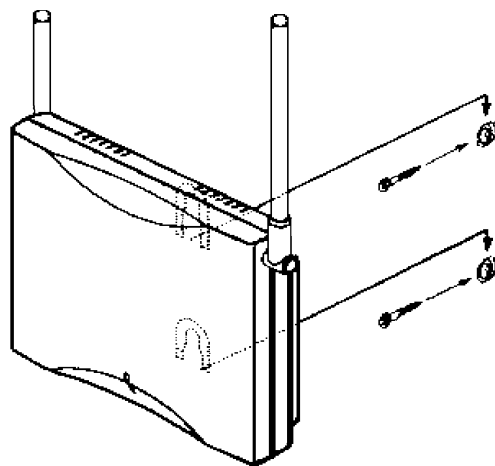

Figure 45. Base Station Mounting
1. Use a Phillips head screwdriver to attach the metal wall mounting bracket to the IX-BSREP unit as illustrated in Figure 45.